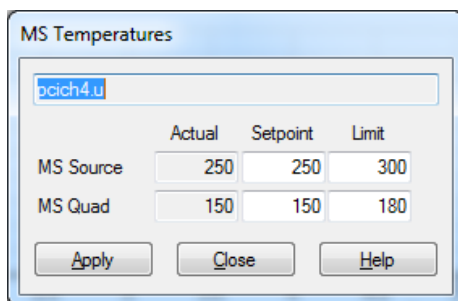

Figure 37 MS temperatures dialog
- 1 In **Instrument Control** view, select **MS Temperatures** from the **Instrument** menu. (See **Figure 37**.)